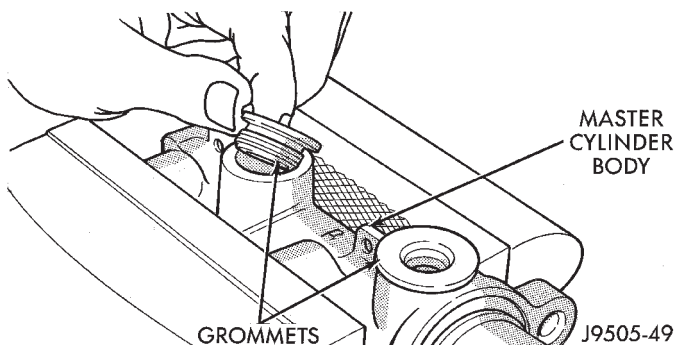

Fig. 43 Grommet Removal
(6) Remove old grommets from cylinder body (Fig. 43).